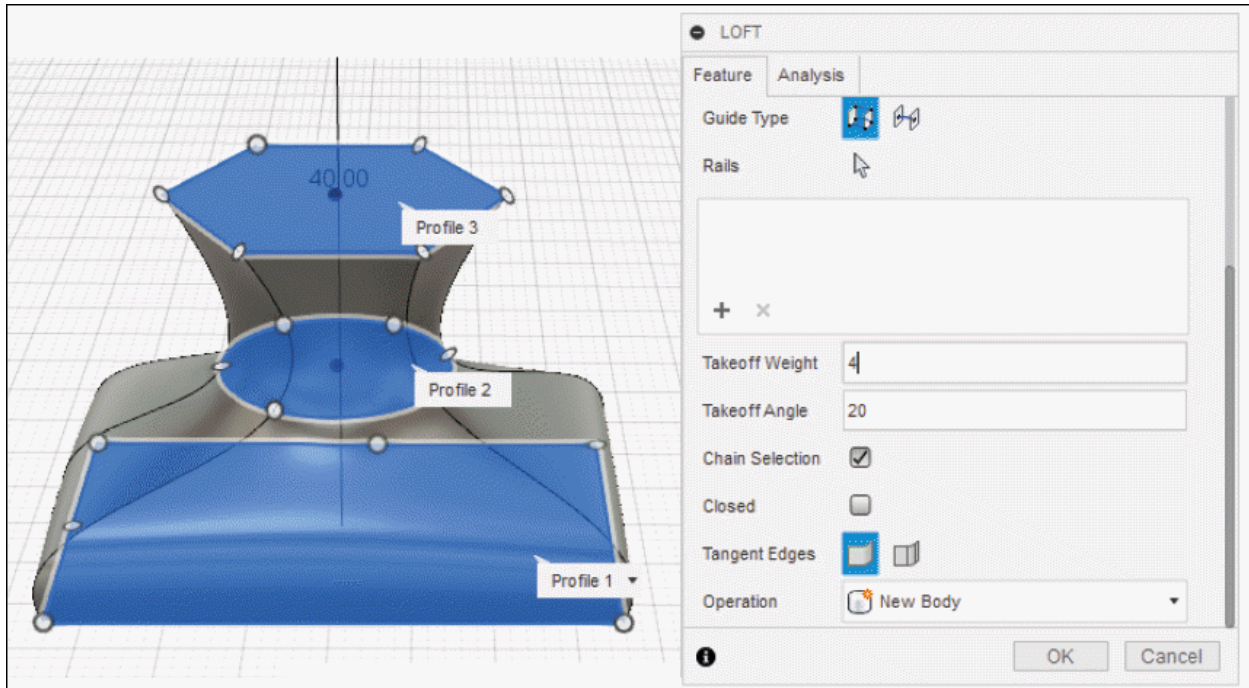

Figure-10. Preview after entering the value
- Enter the value as **4** in **Takeoff Weight** edit box and specify the outward angle in **Takeoff Angle** edit box by **20** degree. You will find a bulge in the loft feature; refer to Figure-10.